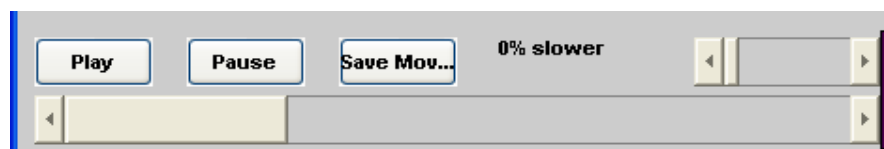

Figure 5
10. Once all the image files are loaded, you can view them as a movie by clicking "Play" button. You can also "Pause" in between image frames. You can also view each frame by frame or even reduce the speed of the movie by sliding the button "0% slower". You can also save what you see in an avi movie by clicking "Save movie" button (Fig. 5).
better to pick points in a middle frame because then for tracking both before and after the reference frame, we will remain close enough to the reference which helps any accurate tracking. Use the movie slider (Fig. 5) to go to frame number 12 (say).